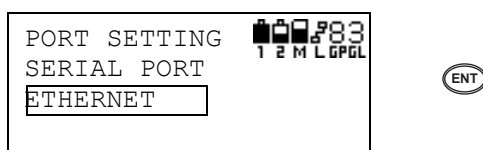

Figure 3-90. Select Ethernet and Press Enter
2. On the Port Setting screen, select ETHERNET and press **ENT** (Figure 3-90).